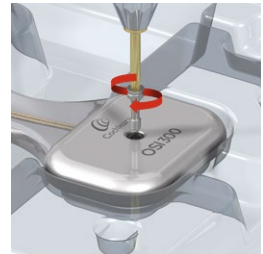

Fig.22: Attaching the fixation screw to the OSI300 Implant
6. While the OSI300 Implant is still in the blister pack, use the screwdriver unigrip 95 mm to pick up the fixation screw from the implant blister pack using minimal force. Carefully screw the fixation screw into the actuator until it is fully seated (*Fig.22*).